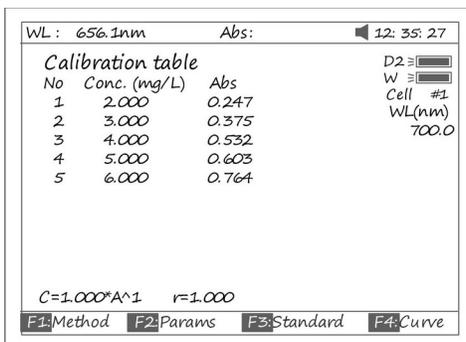

Fig 33
3.3.3 Pull the first sample cuvette of known concentration into the light path, Press the key [START] to get values of standard curve one by one (Fig 33).
In Fig 33 press [Load] and then press [λ] or [ν] to select the file with type *****.fit**. At last press [ENTER] TO confirm.